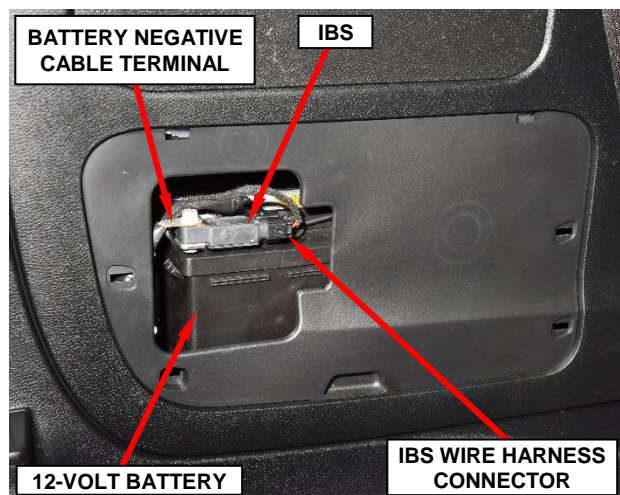

Figure 4 – Battery Negative Cable
8. Disconnect the wire harness connector from the Intelligent Battery Sensor (IBS) (Figure 4).
9. Remove the nut securing the battery negative cable terminal to the IBS (Figure 4).
10. Disconnect and isolate the battery negative cable terminal from the IBS (Figure 4).